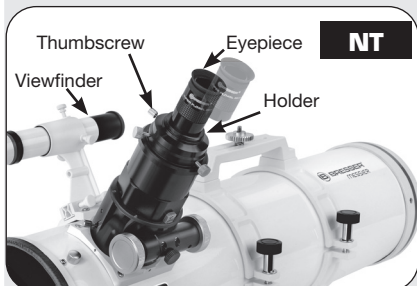
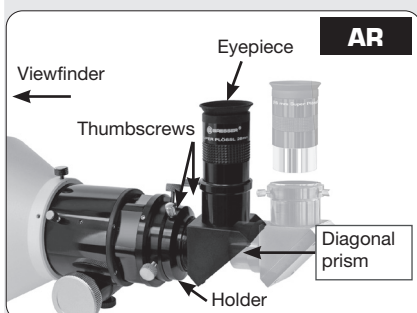

Fig. 10a: Insert eyepiece into holder and tighten thumbscrews.
Fig. 10b: Insert eyepiece into diagonal prism and tighten thumbscrews.
10. Insert the eyepiece: NT models (Fig. 10a): Lift to remove the dust cap from the eyepiece holder on the focuser assembly. Set the dust cap aside in a safe place and replace it when you have finished observing to protect the eyepiece assembly. Back off the eyepiece thumbscrews (1, Fig. 1a) and insert the supplied 25mm eyepiece (3, Fig. 1a) into the the eyepiece holder. Tighten the holder thumbscrews to a firm feel to secure the eyepiece. AR models (Abb. 10b): Lift to remove the dust cap from the eyepiece holder on the focuser assembly. Set the dust cap aside in a safe place and replace it when you have finished observing to protect the eyepiece assembly. Back off the eyepiece thumbscrews (1, Fig. 1b) and slide the diagonal prism into the holder and tighten the thumbscrews to a firm feel only. Insert the supplied 25mm eyepiece (3, Fig. 1b) into the the diagonal prism. Tighten the prism's thumbscrews to a firm feel to secure the eyepiece.